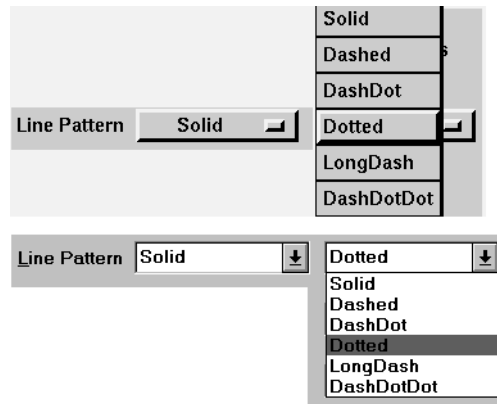

Figure 2-17. Drop-downs in Motif (top) and Windows (bottom).
- **Drop-downs:** Any menu or list of options which becomes visible when you click at a particular spot is a drop-down. Thus, all the menus available from the menu bar and their sub-menus, as well as various types of option menus and drop-down lists, are called drop-downs. Figure 2-17 shows drop-downs as they appear in Motif and Windows systems.